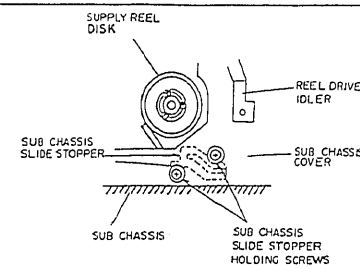

Fig. 3-4
3. SUB CHASSIS SLIDE AMOUNT ADJUSTMENT (Figs. 3-4, 3-5, 3-6, 3-7)
- Loosen two (2) screws holding the sub chassis slide stopper. (See Fig. 3-4)